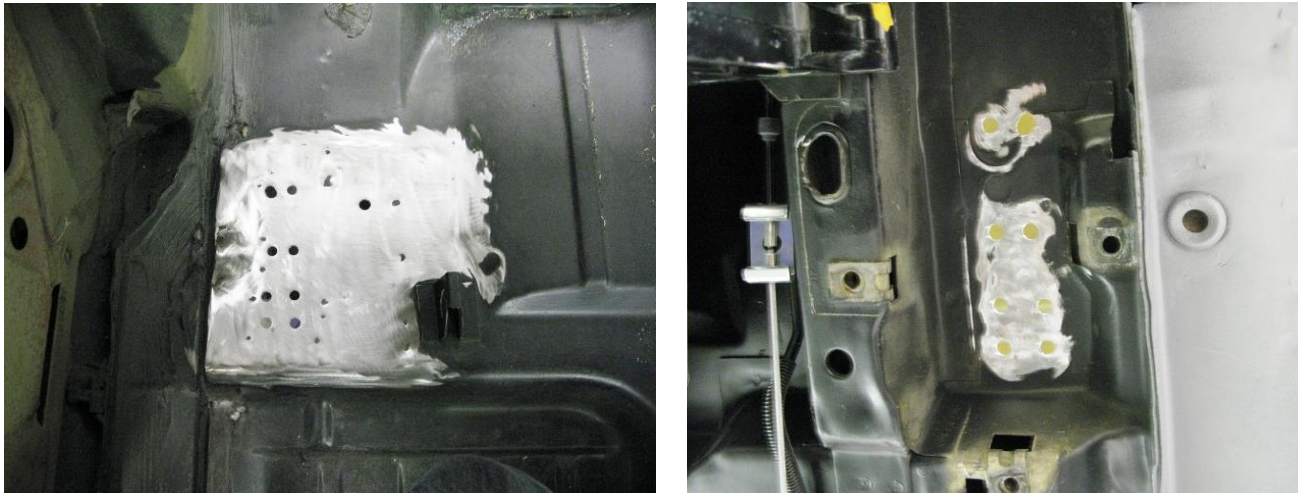

Figure 10- Chamfer and Grind Holes
19. Once the holes are drilled, DSE recommends chamfering the holes on both sides of the floor pan so that the DSE pocket assemblies and floor pan doublers sit flat against the floor pan. Grind the area of the floor pan around the doubler plate inside the vehicle for welding (Fig. 10).